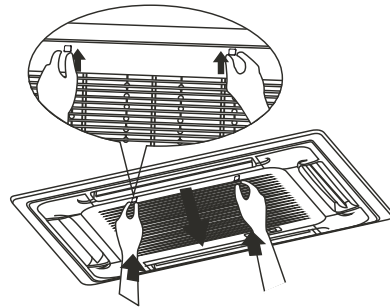
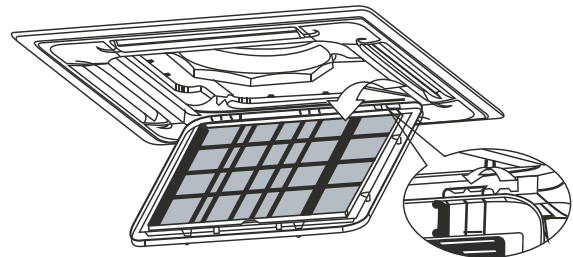

Figure 13.1
Figure 13.2
- ◆ Push the grille switches simultaneously, as indicated in Fig.13.1. Then pull down the air intake grille (together with the air filter), as shown in Fig.13.2). Pull the air intake grille down to 45°, and lift it up to remove the grille.